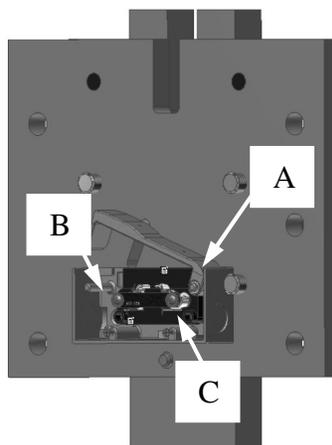

Figure 3
- Remove the cover from the switch, item "A", and remove the conduit plug at the rear of the gate switch from the switch enclosure. (The rear of the switch will be the side AWAY from the "forked" lock blade.) Install a conduit fitting in the switch enclosure, and route the wires through the conduit fitting and into the switch. Connect one wire to each of the screw terminals, items "B" and "C" within the switch, and re-install the switch cover. Refer to Figure 3.